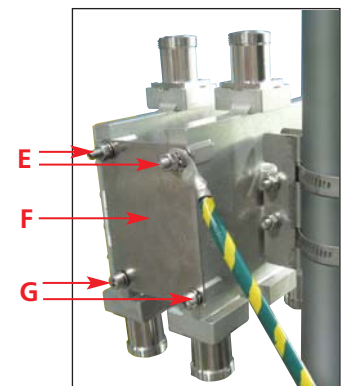

Figure 3
1. Assemble the (2) diplexers together using the (2) distance plates (F) and the (6) bolt kits (G) provided (SEM2-3 kit) in the package. Use the (2) M6 grounding studs (E) attached to the single diplexer to complete the plate fixation on the diplexers. Tighten them with 8 Nm (5.9 ft-lbs) torque. See Figure 3.